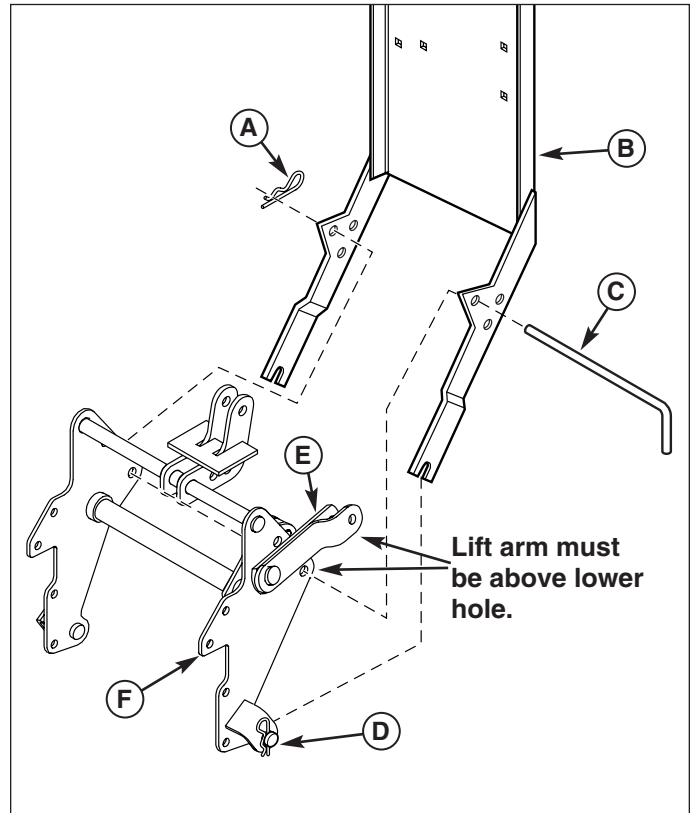

Figure 5. Install Side Brackets
4. Raise the lift arm (E, Figure 5) up above the lower hole of the 3-point hitch (F). Install the back plate (B, Figure 5) on the clevis pins (D) and secure to the hitch with the long hitch pin (C) and hair pin clip (A).